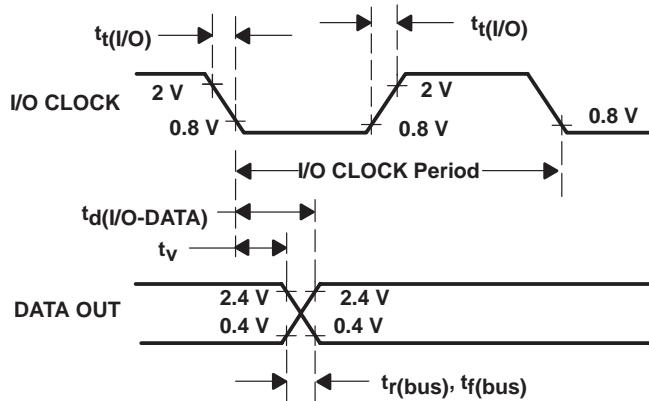

Figure 7. I/O CLOCK and DATA OUT Voltage Waveforms
10. I/O CLOCK period = $1/(I/O\text{ CLOCK frequency})$ (see Figure 7).